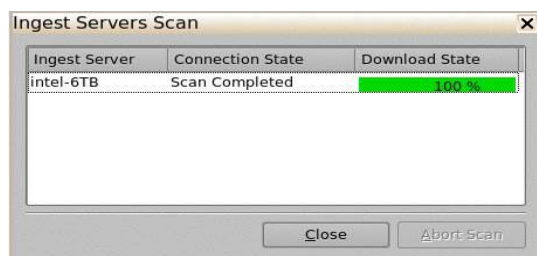

Figure 61: Ingest Servers Scan Window
- The Refresh Ingest Servers button is used to synchronize the contents view with the content on the ingest servers. This is necessary to show the newly transferred content on the remote ingest servers. When clicking on this button, the following screen will appear (Figure 61):